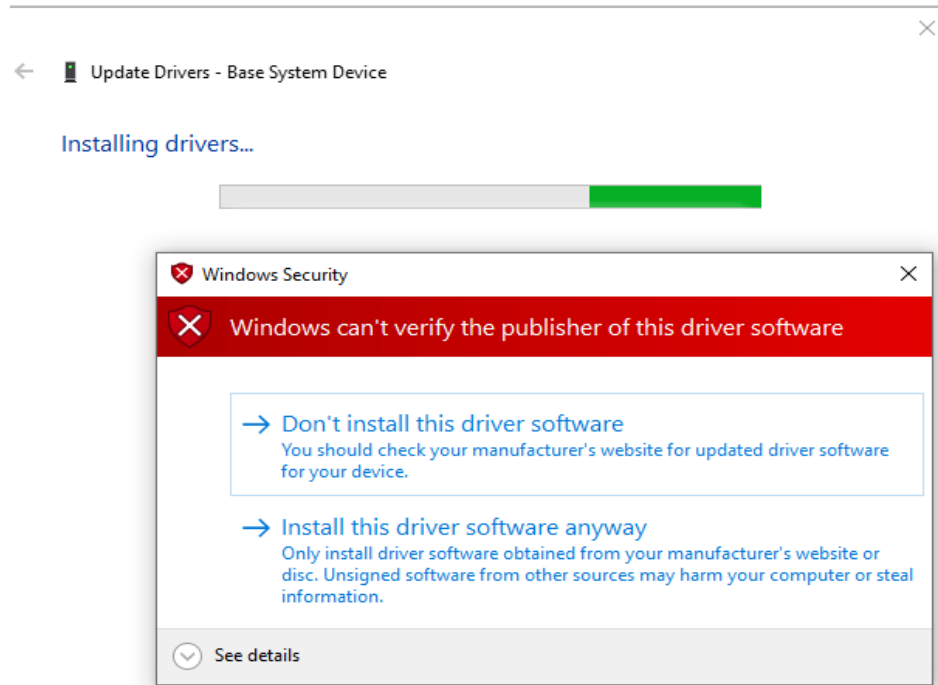

Figure 5.30. Windows Security in Device Manager
7. If the user receives a Windows Security prompt, select **Install this driver software anyway** as shown in Figure 5.30.